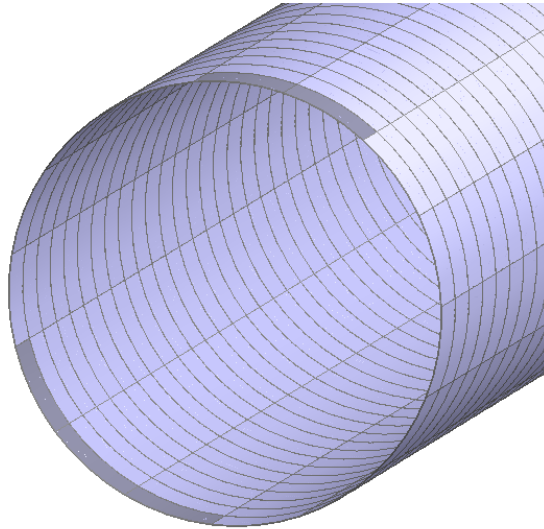

Figure 5.28 Select Elements for Creating a Seam.
- Select a few of the elements through which the seam is supposed to pass through. To select an element in the GUI: Left-click on the element with the *shift-key* held down. (Figure 5.28)